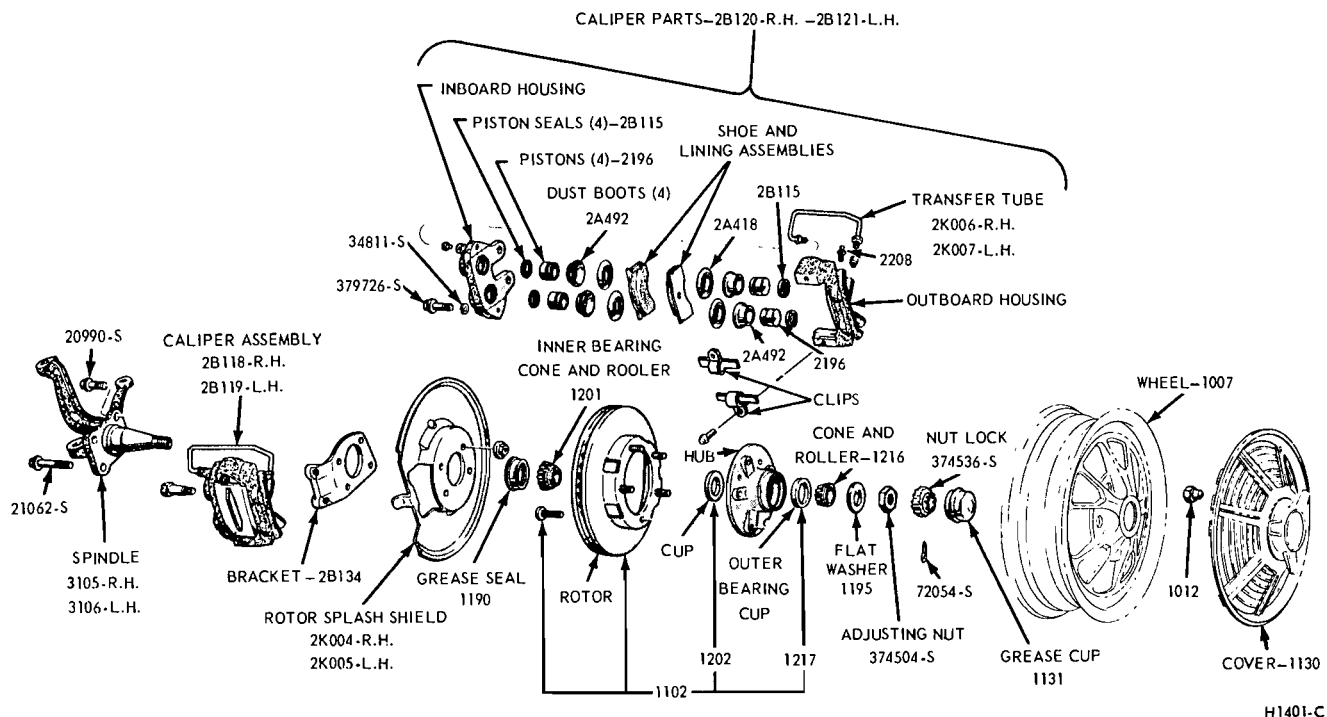

FIG. 17—Disc Brake Disassembled
Refer to Fig. 17.
2. Remove the two bolts that attach the caliper brake shoe retaining clips, and remove the clips (Fig. 17).
2. Position the spring clips on the calipers and install the retaining bolts and washers (Fig. 17).
Refer to Figs. 17 and 25.
1. Remove the wheel and tire from the hub and rotor assembly (Fig. 17). **Be careful to avoid damage or interference with the caliper splash shield bleeder screw fitting or transfer tube.**
remove the protective coating from the new rotor with carburetor degreaser. Pack a new set of bearings with specified grease, and install the inner bearing cone and roller assembly in the inner cup. Pack grease lightly between the lips of a new grease retainer and install the retainer (Fig. 17).
2. Remove the four nuts that attach the splash shield to the mounting bracket and remove the shield (Fig. 17).
2. If the shield is bent, straighten it out before installation. Position the shield to the mounting bracket, install the attaching nuts, and torque to specification (Fig. 17).